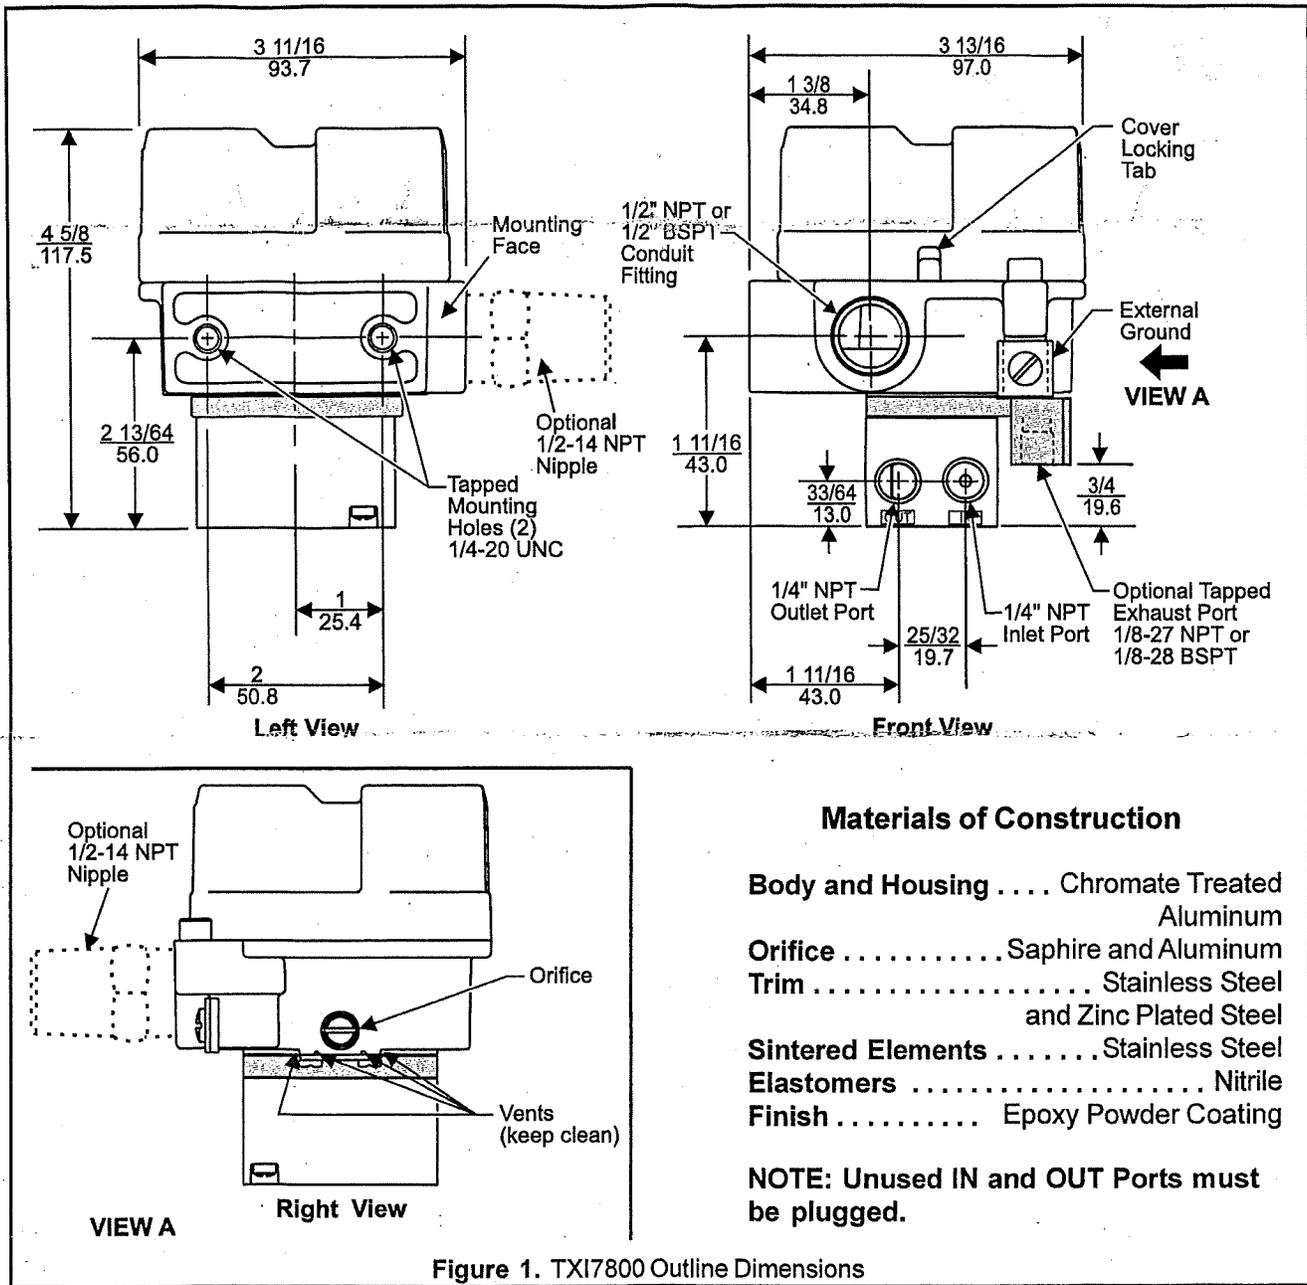

Figure 1. TXI7800 Outline Dimensions
2. Remove the Orifice Assembly from the unit. For more detailed information see Figure 1. "TX17800 Operating & Calibration Controls" on page 1.
4. Lubricate O-Rings on Orifice Assembly (4) with silicone grease or equivalent lubricant before reassembling.
You can mount the Model TXI7800 directly on a flat surface using the two tapped mounting holes in the mounting face of the housing. For more information, see Figure 1.
The inlet and outlet ports are labeled on the side of the transducer. Tighten connections securely. Avoid undersized fittings that limit the flow through the transducer and cause a pressure drop downstream. For more information, see Figure 1.